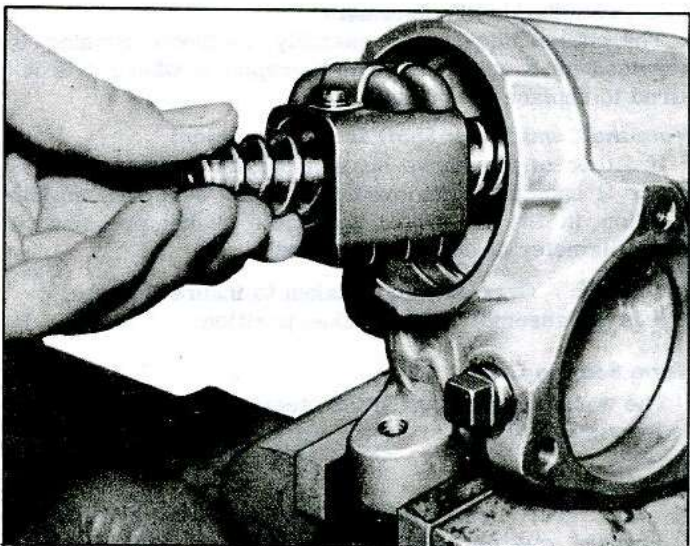

Fig. 10—Removing Wormshaft and Ball Nut
6. Draw wormshaft and nut assembly from housing (fig. 10). Remove upper ball bearing.